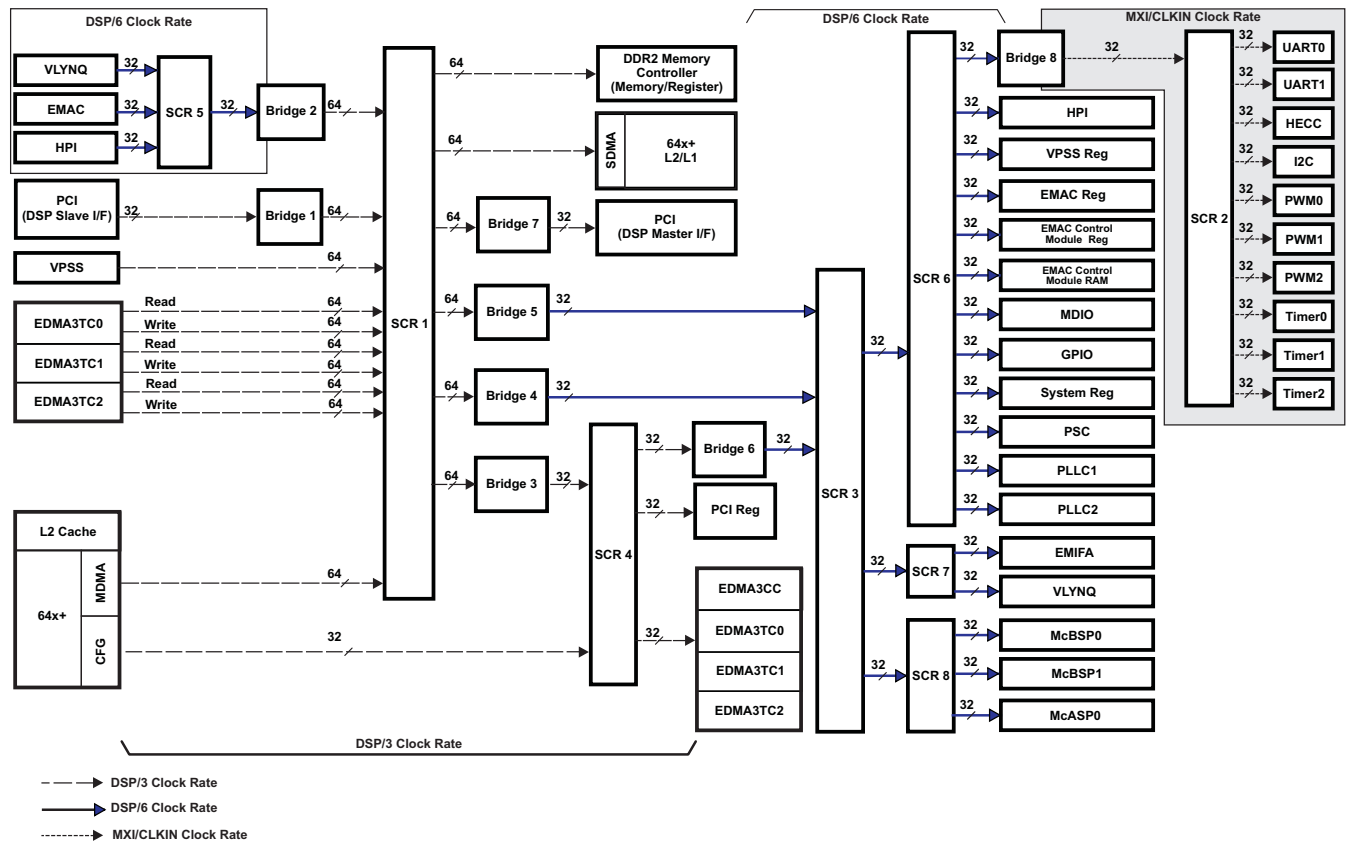

Figure 4-1. System Interconnect Block Diagram
On the DM6437 device, the C64x+ Megamodule, the EDMA3 transfer controllers, and the system peripherals are interconnected through a switch fabric architecture (see Figure 4-1). The switch fabric is composed of multiple switched central resources (SCRs) and multiple bridges. The SCRs establish low-latency connectivity between master peripherals and slave peripherals. Additionally, the SCRs provide priority-based arbitration and facilitate concurrent data movement between master and slave peripherals. Through an SCR, the DSP subsystem can send data to the DDR2 Memory Controller without affecting a data transfer between the EMAC and L2 memory. Bridges are mainly used to perform bus-width conversion as well as bus operating frequency conversion. For example, in Figure 4-1, Bridge 6 performs a frequency conversion between a bus operating at DSP/3 clock rate and a bus operating at DSP/6 clock rate. Furthermore, Bridge 5 performs a bus-width conversion between a 64-bit bus and a 32-bit bus.
Figure 4-1 displays the DM6437 system interconnect block diagram. The following is a list that helps in the interpretation of this diagram:
- A peripheral may have multiple instances shown in Figure 4-1 for the following reason: